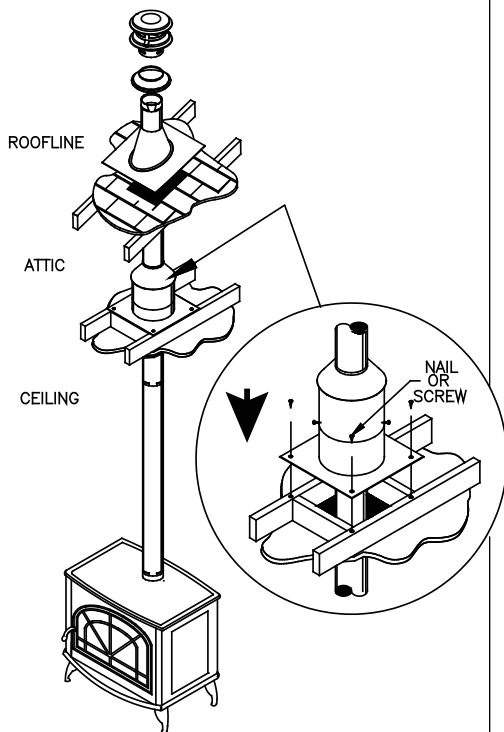

Figure 6
PelletVent Pro does not require additional sealant to be used at pipe joints, but in certain circumstances sealant may be used if desired. Seal the inner liner overlap at the male end of pipe for best results (**Figure 6**)
G. When the PelletVent Pro enters the attic, install an Attic Insulation Shield around the vent (**Figure 6**). This will prevent insulation and debris from collecting near the vent pipe. Use (4) nails or wood screws to secure the base of the Attic Insulation Shield to the framed opening. Adjust the height of the Attic Insulation Shield by sliding the top cylindrical shield over the one from the base. Ensure that the top of the Shield is above the level of building insulation. Secure the Shield in place with at least two (2) sheet metal screws through the side of the cylindrical shield. Attach collar around pipe, then lower to the top of the Attic Insulation shield.